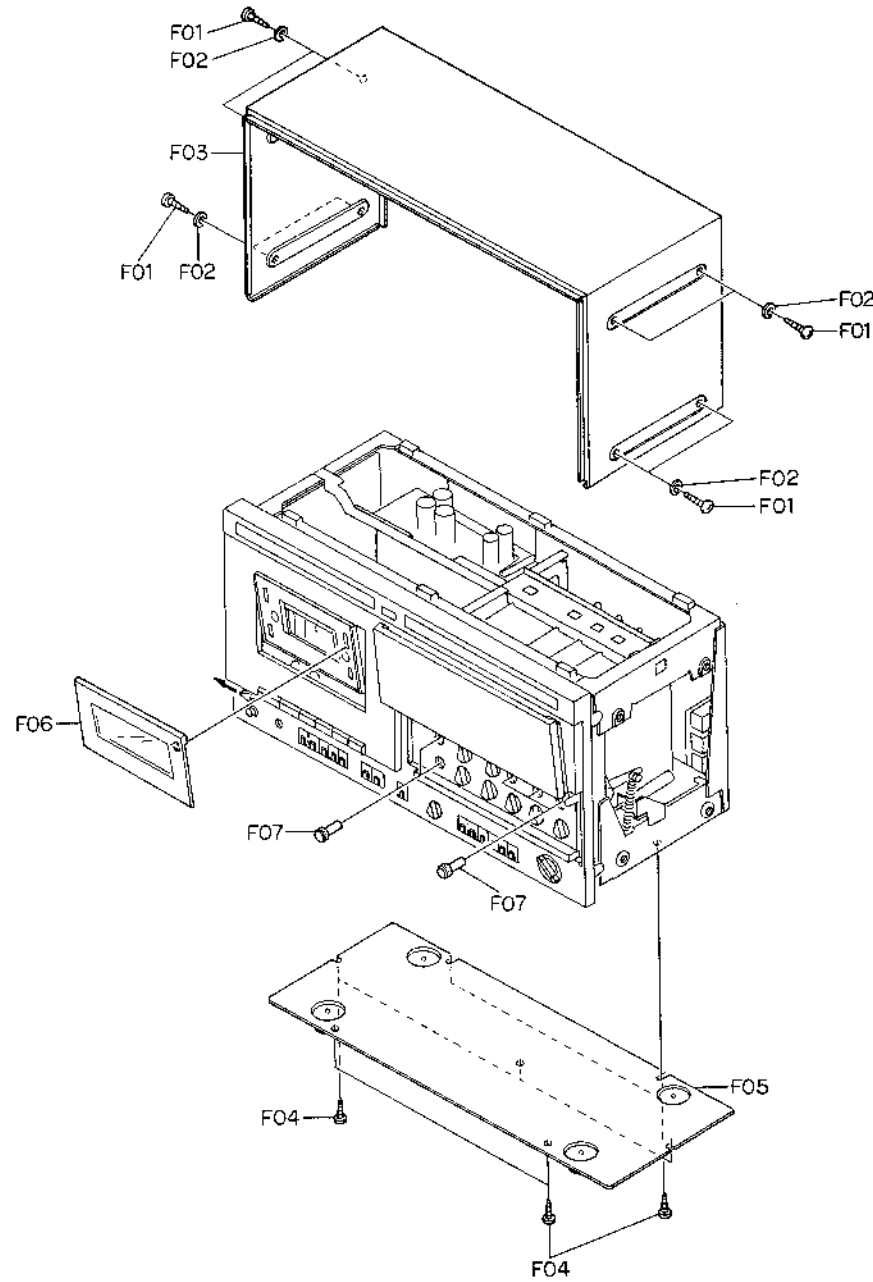

Fig. 2.1
Refer to Fig. 2.1.
- (1) Refer to Fig. 2.1. Remove Top Cover Ass'y, Bottom Cover Ass'y and Volume Knobs referring to items 2.1, 2.2 and 2.4.
- (2) Open Adjustment Lid.
- (3) Remove F01, then disassemble the top of F02 (Damper Arm Ass'y) from Front Panel Ass'y.
- (4) Remove F03, then disassemble F04 (Front Panel Ass'y including 4 connectors).
- (1) Refer to Fig. 2.1. Remove Top Cover Ass'y and Bottom Cover Ass'y referring to items 2.1. and 2.2.
- (2) Disconnect 4 connectors from F13 (Auto Cal. P.C.B. Ass'y).
- (3) Remove F07 and F08, then loosen F09.
- (4) Turn over F10 (Rear Panel Ass'y) as the arrow head.
- (5) Remove F11 and F12, then disassemble F13 (Auto Cal. P.C.B. Ass'y).
- (1) Refer to Fig. 2.1. Remove Top and Bottom Cover Ass'y referring to items 2.1 and 2.2.
- (2) Remove F01 and F02 (P.C.B. Holder B Ass'y), then disassemble F03 (Auto Cal. Ass'y including 4 connectors).
- (3) Remove F04 and F05 (P.C.B. Spacer), then disassemble F06 (Auto Cal. A P.C.B. Ass'y) and F07 (Auto Cal. B P.C.B. Ass'y).
- (1) Refer to Fig. 2.1. Remove Top Cover Ass'y referring to item 2.1.
- (2) Remove F08 and F09 (P.C.B. Holder A Ass'y), then disassemble F10 (Oscillator P.C.B. Ass'y), F11 (Record Eq. Amp. P.C.B. Ass'y), F12 (Playback Amp & Dolby NR P.C.B. Ass'y) and F13 (Record Dolby NR P.C.B. Ass'y).
- (2) Remove F17, then disassemble F18 (RAMM P.C.B. Ass'y).
- (1) Refer to Fig. 2.1. Remove Top Cover Ass'y and Bottom Cover Ass'y referring to items 2.1 and 2.2.
- (2) Remove F01, F02 and F03, then disassemble Rear Panel Ass'y.
- (3) Remove F04, then disassemble F05 (Power Supply Ass'y).
- (4) Remove F06, then disassemble F07 (Insulator).
- (5) Remove F08, F09 and F10, then disassemble F11 (Heat Sink) and F12 (Power Supply P.C.B. Ass'y).
- (6) Remove F13, then disassemble F14 (Fuse P.C.B. Ass'y).
- (7) Remove F15, then disassemble F16 (Power Transformer Ass'y).
- (8) Remove F17 and F18, then disassemble F19 (Power Transformer) and Transformer Holder.